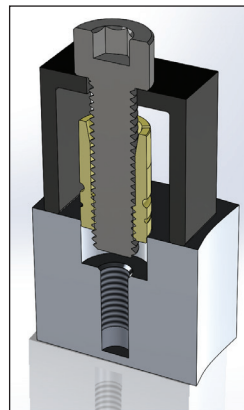

Figure 2
**PRESS FIT REMOVAL:** Place the I/R Tool over the clamp as shown in figure 2, thread the larger SHCS into the "internal threads" of the Pin and tighten the screw to extract the Pin.